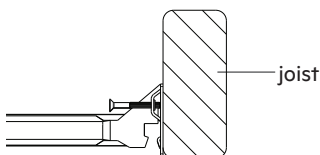

fig. 3
- a. Align the bottom of the hanger bar tab (see fig. 3) with the inside of the ceiling surface (bottom of the joist).
- a. Align the bottom of the hanger bar tab (fig. 3 on page 8) with the inside of the ceiling surface (bottom of the joist).